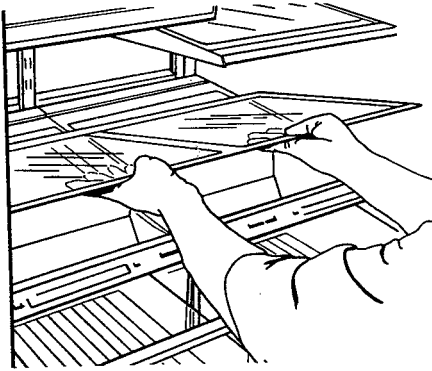

Figure 27.
- f. Grasp shelf with other hand and tilt glass upward at one end and remove from refrigerator. See Figure 27.